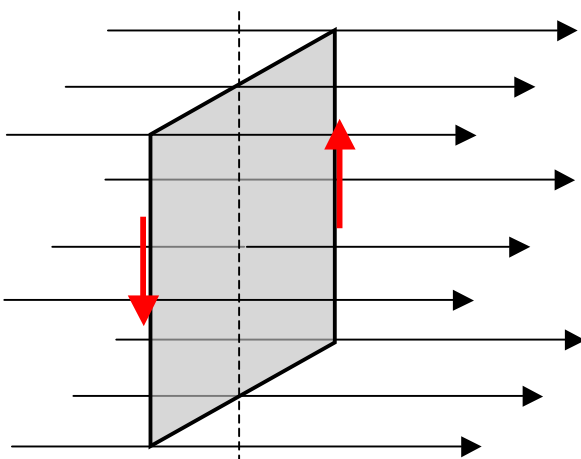

Figure 11.9b
2. In Figure 11.9b, your task is the same -- but the loop's initial position is now rotated 90° from its initial position in 11.9a, so the loop is perpendicular to the magnetic field directional arrows.